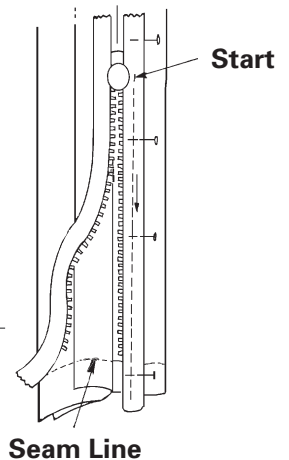

Fig. 9-3
6. Machine-baste from the bottom to the top of the zipper, $\frac{1}{8}$ inch (3 mm) from the zipper teeth. Stitch only through the zipper tape and single seam allowance. (Fig. 9-3) Remove the pins as you reach them.